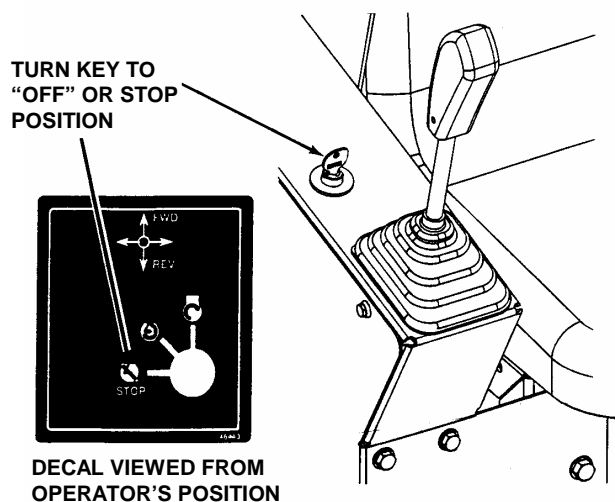

FIGURE 2.8
1. Stop engine by turning key to the "OFF" position. See Figure 2.8.
1. Stop motion of riding mower by moving joystick to neutral (N) position. See Figure 2.8.